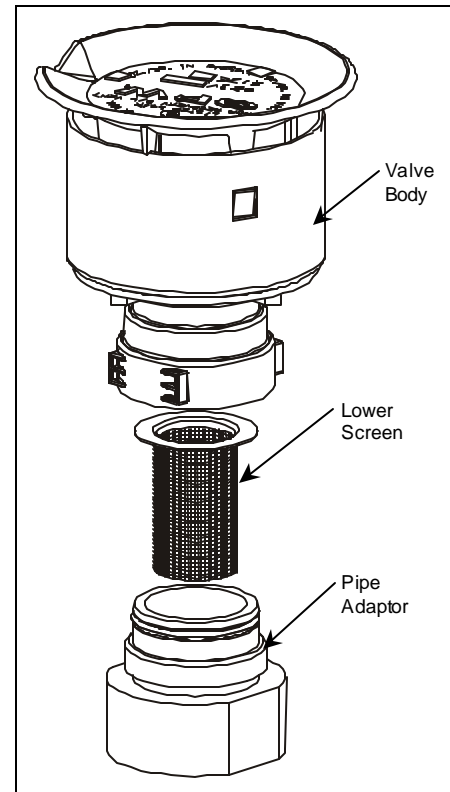

Figure 4
1. Remove valve assembly from the pipe adaptor. Grip assembly at the flats just above the pipe adaptor and unscrew. (Fig. 4) Wrench C05102M can be used for this purpose.
3. Reinstall filter screen in the pipe adaptor (see Fig. 4 for orientation).